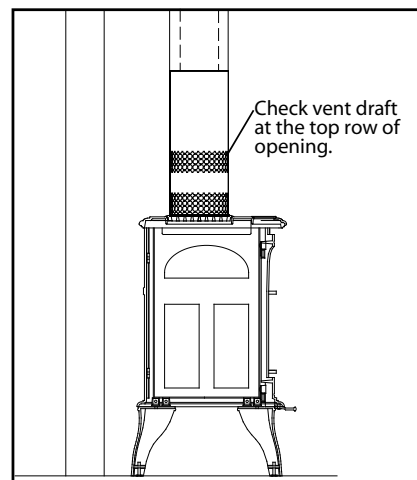

Figure 48: Draft test place.
4. After a minimum of 10 minutes operation, test the chimney draft with a smoke match at the top row of the pattern to confirm that there is adequate draft or 'pull' at the openings around the body of the Drafhod Adaptor, as shown in Figure 48.
2. Place the log set into the firebox. Locate each log by seating it down onto the burner tray support pins. Follow Figures 48 to 54 proper log placement.